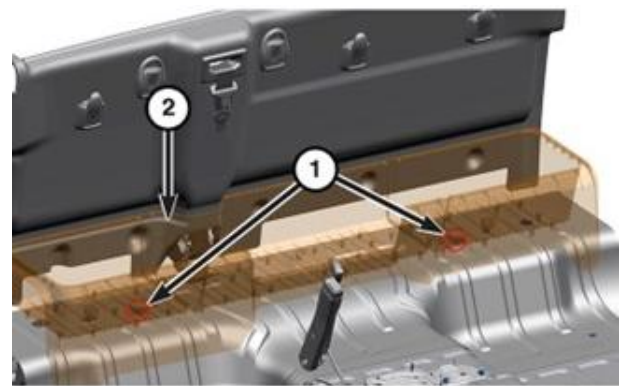

Figure 5 – Rear Storage Bin
3. Remove the two screws that secure the rear storage bin (Figure 5).
4. Lift up on storage bin to remove from vehicle (Figure 5).
21. Install the rear storage bin and tighten the two screws securely (Figure 5).